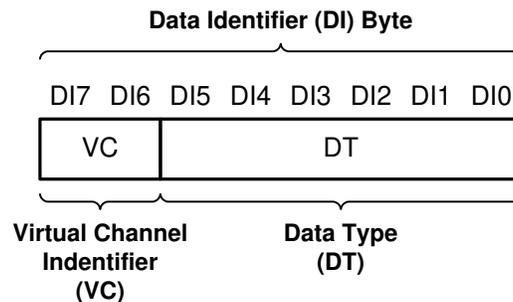

Figure 7-10. CSI-2 Data Identifier Structure
The DS90UB960-Q1 MIPI CSI-2 protocol interface transmits the data identifier byte containing the values for the virtual channel ID (VC) and data type (DT) for the application specific payload data, as shown in Figure 7-10. The virtual channel ID is contained in the 2 MSBs of the data identifier byte and identify the data as directed to one of four virtual channels. The value of the data type is contained in the 6 LSbs of the data identifier byte. When partnered with a DS90UB935-Q1 or DS90UB953-Q1 serializer, the Data Type is passed through from the received CSI-2 packets. When partnered with a DS90UB933-Q1 or DS90UB913A-Q1 the received RAW mode data is converted to CSI-2 Tx packets with assigned data type and virtual channel ID.